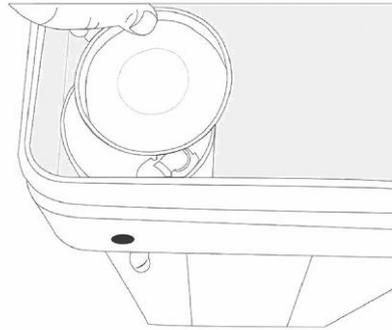

Figure 14
- Next, locate the brine well, and remove the cap as shown in Figure 14 on the following page.